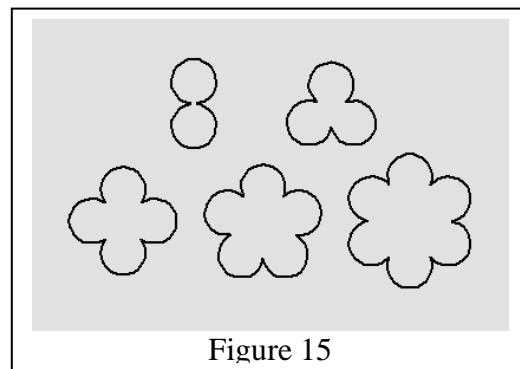

Figure 15
E.2.3.2. Stranded wire. Instead of sweeping several copies of a circular profile along the path and then trying to edit the result, a much cleaner approach is to make a profile in which the circles are merged into a single Polyline. Figure 15 illustrates profiles for 2, 3, 4, 5, and 6 wires of the same diameter.